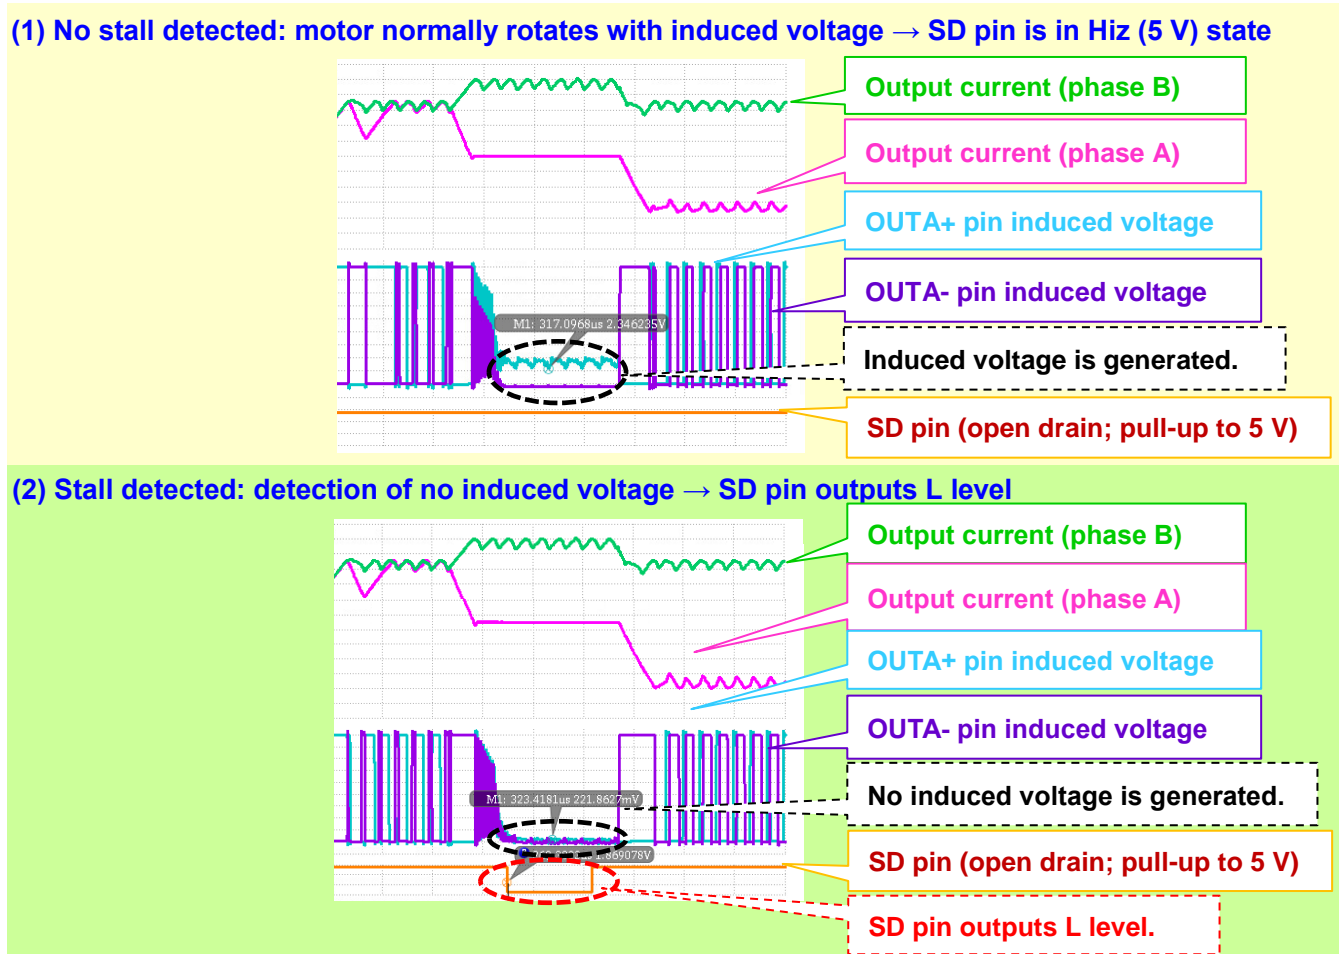

Figure 7. SD pin waveform example when a stall is detected
- As shown in Figure 7, if the motor's induced voltage is below a certain level, the motor does not rotate sufficiently (i.e., a stall), and the SD pin outputs L.